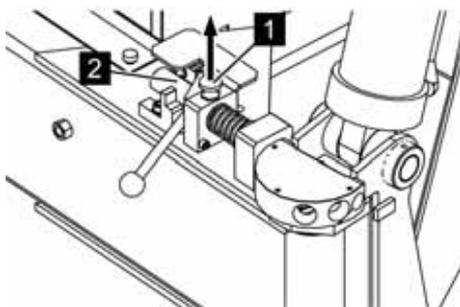

Fig. 57: Loosening the latching
1. → Pull the locking pin (Fig. 57/1) upwards until the latching bolt (Fig. 57/2) turns freely.